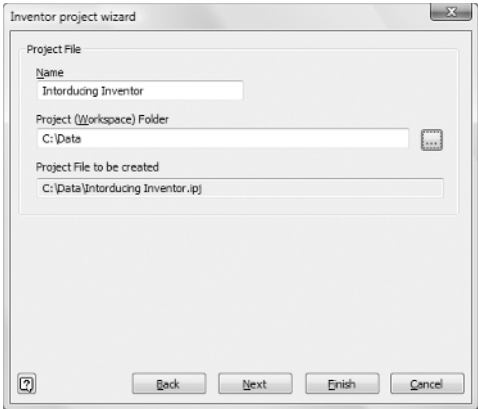

Figure 1.23
- 7. When you return to the Inventor Project Wizard, you should see the path C:\Data under Project (Workspace) Folder and a text string showing C:\Data\Introducing Inventor.ipj under Project File To Be Created (Figure 1.23).